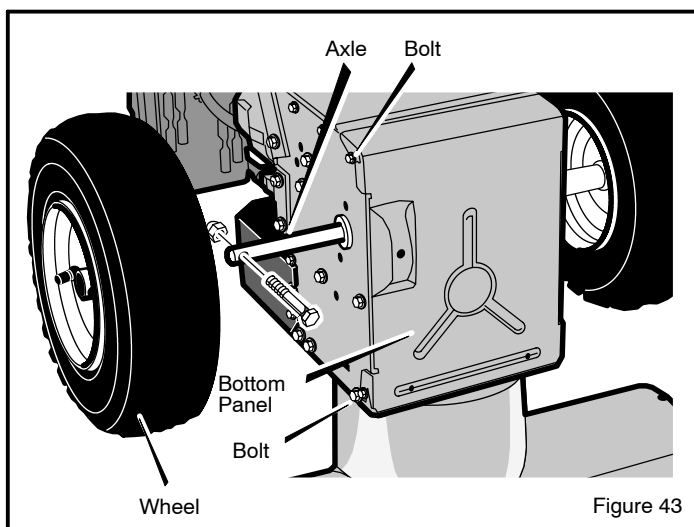

Figure 43
3. Remove the fasteners that secure the left **wheel**. Remove the **left wheel** from the **axle** (see Figure 43)
18. Install the **bottom panel** (see Figure 43).